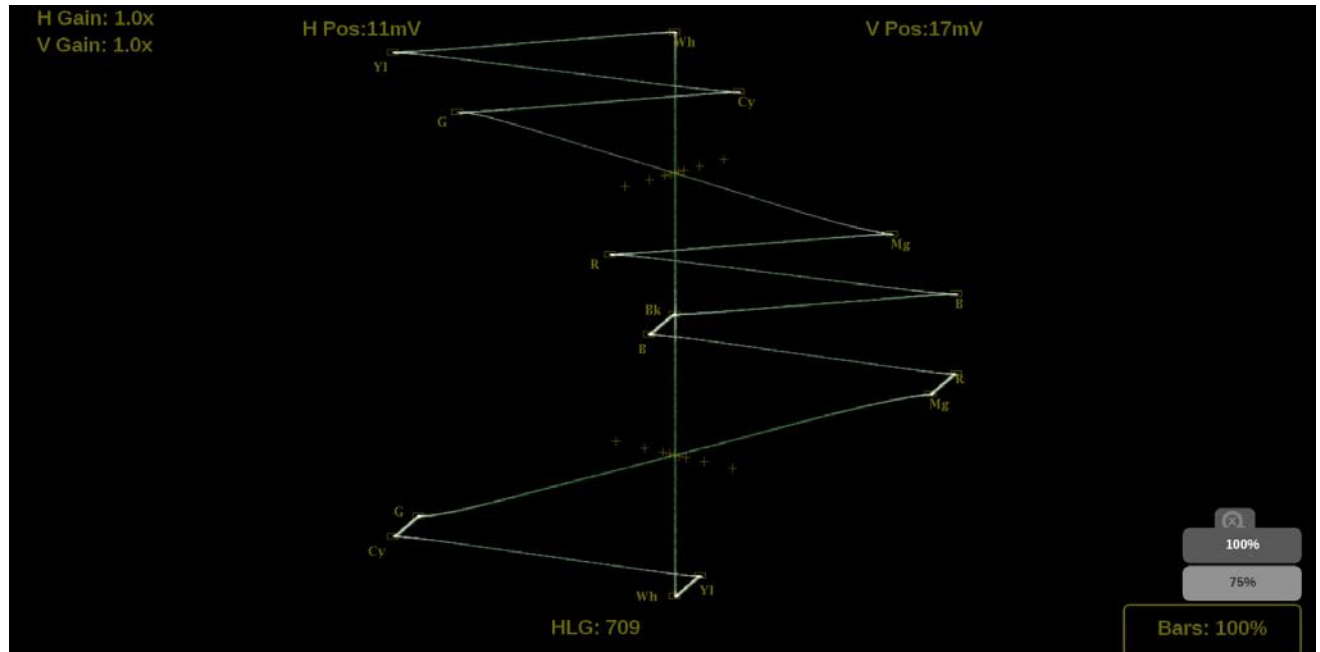

Figure 216: Lightning on-screen tools – Bar Targets
1. Select the **Bars** button in the bottom right corner of the application to expand the available options. (See Figure 216.)